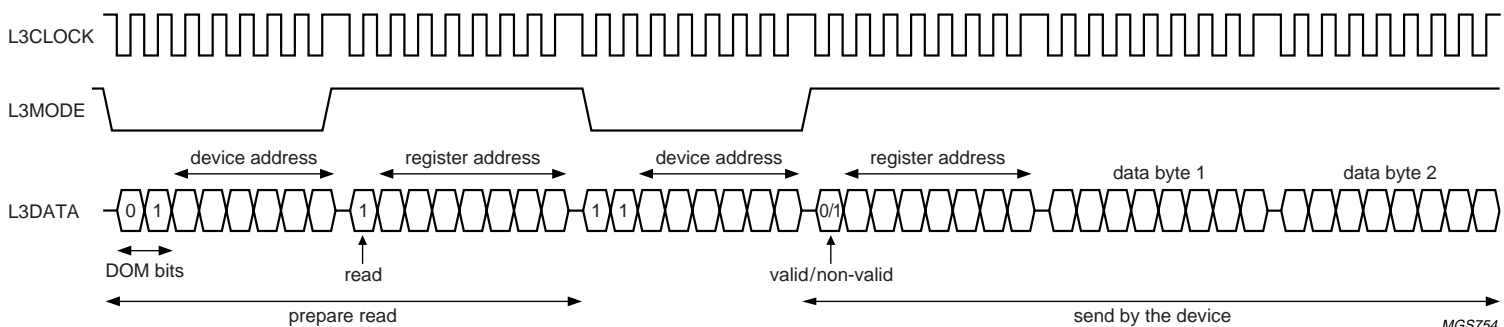

Fig.6 Data read mode.
2. Addressing for prepare read: bit 0 is logic 1 indicating that data will be read from the register (see Fig.6).
For reading data from the device, first a prepare read must be done and then data read. The data read mode is explained in the signal diagram of Fig.6.